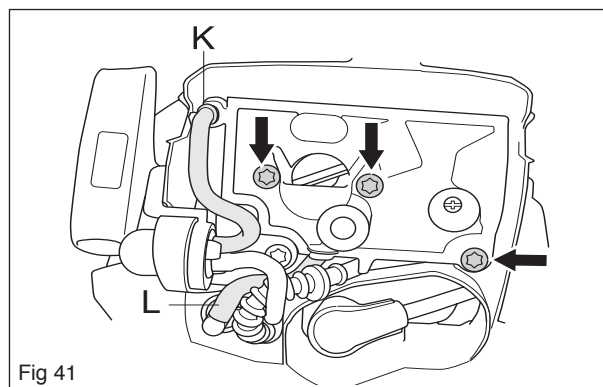

Fig 41
Loosen suction hose (K) and bleeding hose (L) from their respective attachments in the filter holder. Then unscrew the screws and lift out the filter holder. See Figure 41.